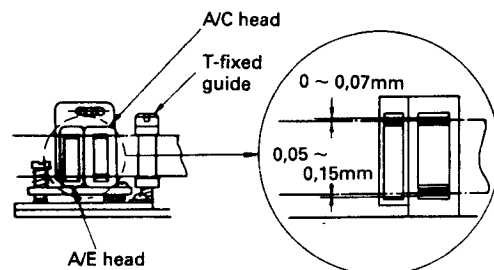

Figure 25.
- 3) Check that the height and tilt of the A/C head are just as shown in Figure 25 in relation to the tape.
- 5) Check that the height of the A/C head is as shown in Figure 25 in relation to the tape.